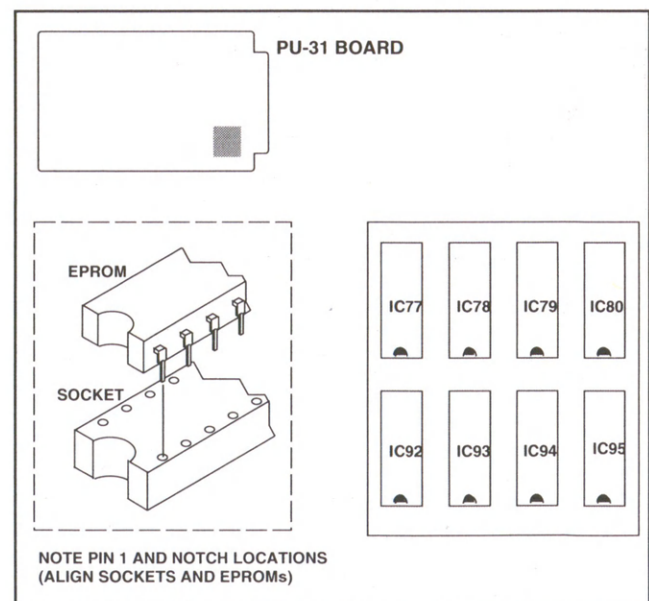

Figure 2
2. Replace EPROMs (IC77–80 and IC92–95) on the PU-31 board. (See Figure 2.)